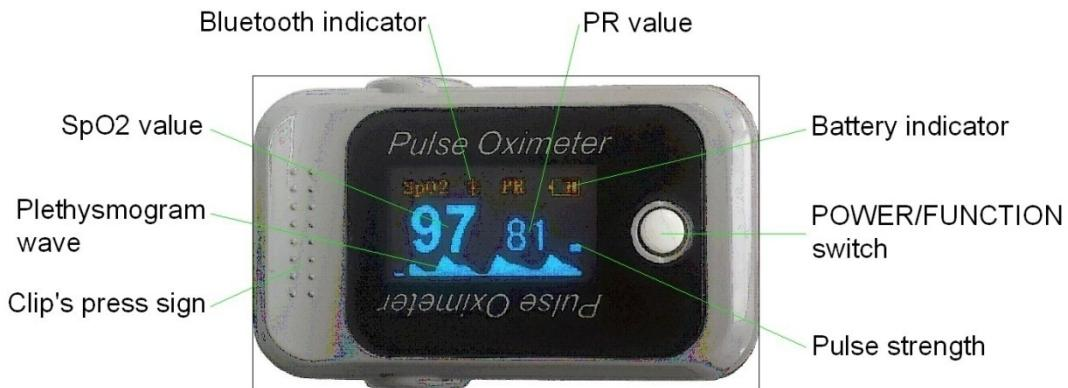

Figure 1
1. Press Clip's press sign in the **Figure 1** and open the clip. Let the testee's finger put into the rubber cushions of the clip, make sure the finger is in the right position as shown in **Figure 4**, and then clip the finger.